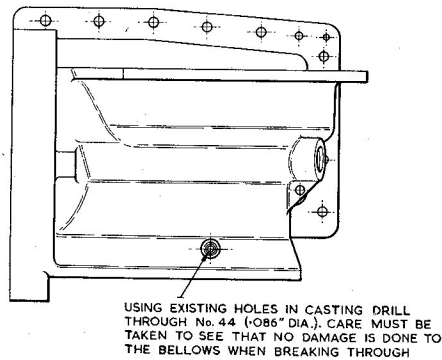

Fig. 23. Bellows gland lubrication hole drilling
(3) Check the size of the bellows gland housing bore, after fitting, and compare it to the size detailed in Table 3.
(4) Using the existing tapped holes in the casing as a guide, drill through the bellows housing with a No. 44 drill (0.086 in. dia.) taking care not to damage the bellows unit (fig. 23).